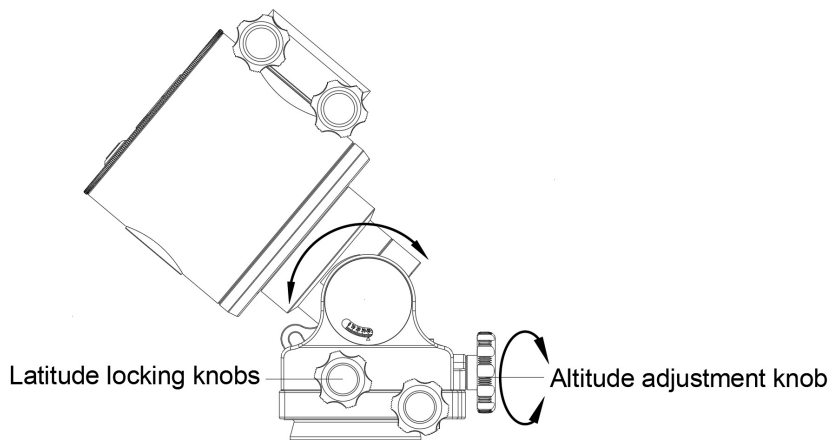

Fig. 2
1. For use in equatorial (**EQ**) mode, loosen slightly the two Latitude locking knobs and turn the Latitude adjustment knob until the arrow on the latitude scale of the mount matches the latitude of your observing site. Lock the two Latitude locking knobs. ( Fig.2)